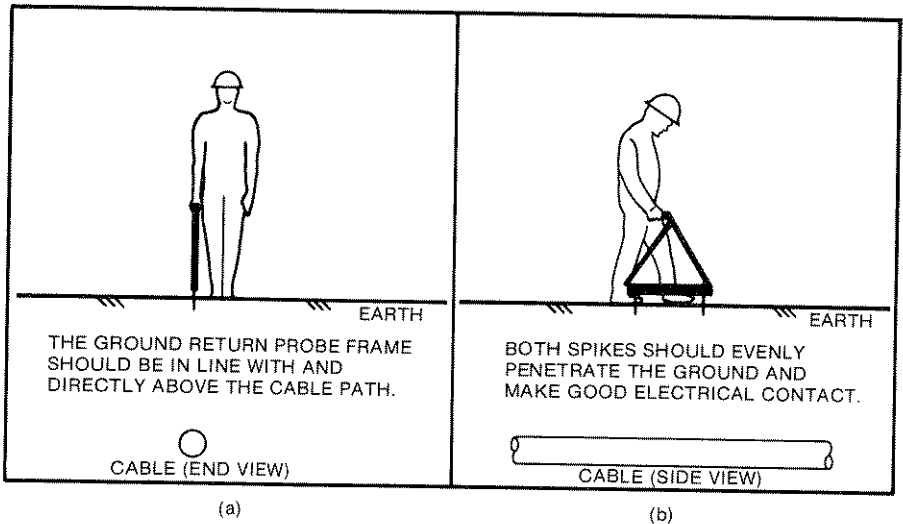

Figure 3-2.
11. Move just past the near access point along the cable path and insert the ground return probe spikes (see Figure 3-2). Rotate the GAIN control knob on the receiver until the meter reads 2.